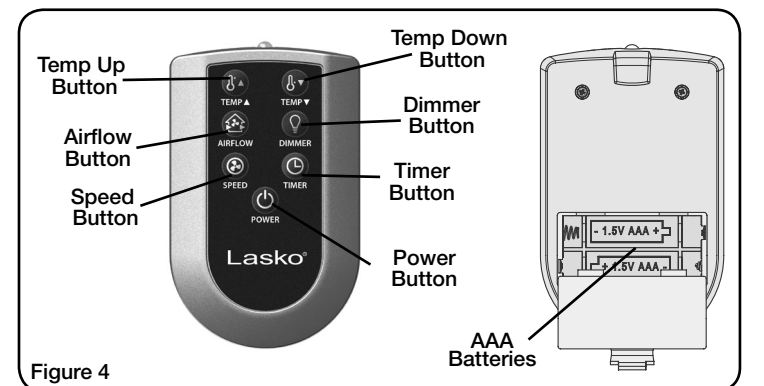

Figure 4
REMOTE CONTROL (Figure 4)
1. Install batteries (not supplied) as shown in Figure 4. The battery is size "AAA".